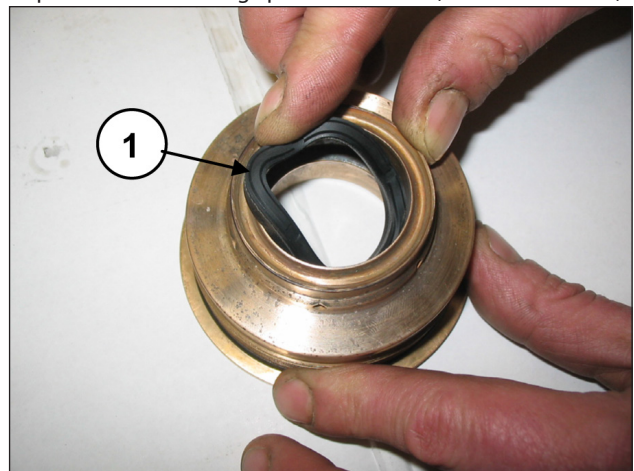

Fig. 149
Insert the low pressure seal in the seal support (pos. ①, Fig. 149) paying attention to the mounting direction which requires that the sealing lip be set forward (towards the head).